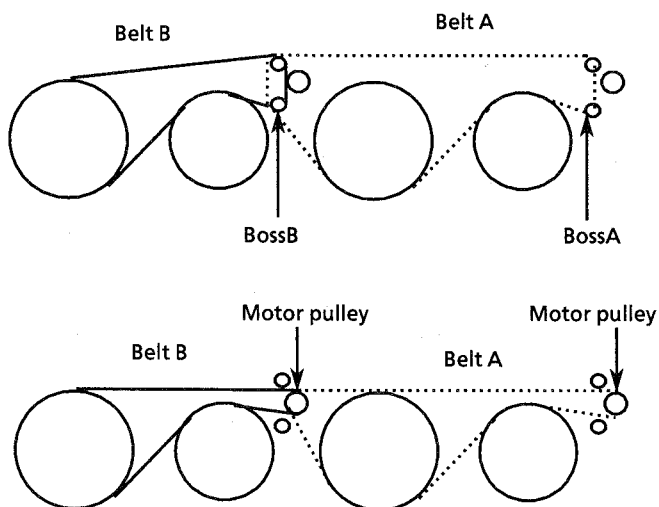

Fig 19 Fly wheel view
1. Install the beltB of bossA, next install the beltA as shown in fig 19 up side.
3. Hang the beltB of the motor pulley using a tweezers and the like as shown in fig 19 down side.